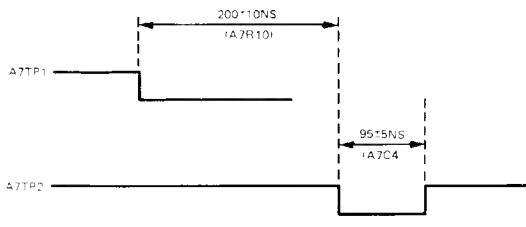

Figure 5-2. Delay and Clock Width Adjustments
- Adjust delay clock A7R10 for 200-ns delay (± 10 ns) between falling edges of signals at A7TP1 and A7TP2 (figure 5-2).
- Adjust clock width A7R12 (A7C4 on instruments with Serial Prefix 1723A) for 95 ± 5 ns between falling edge and rising edge of signal at A7TP2 (figure 5-2).